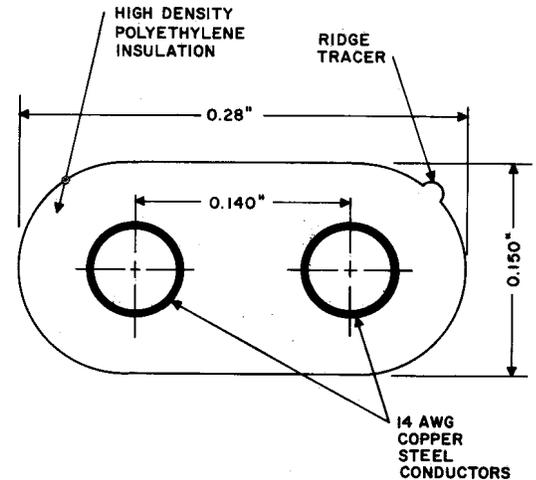

Fig. 1—C Rural Wire—Cross Section
- 2.01 C rural wire (Fig. 1) is a self-supporting, insulated paired wire. It consists of two parallel 14 AWG, 30 percent conductivity, extra high strength copper-steel conductors insulated with high density polyethylene. A single ridge is molded in the insulation to provide conductor identification. The wire weighs approximately 35 pounds per 1000 feet and has a breaking strength of 1100 pounds. It can be used in spans up to 350 feet, 550 feet, and 600 feet in the heavy, medium, and light storm loading areas, respectively.